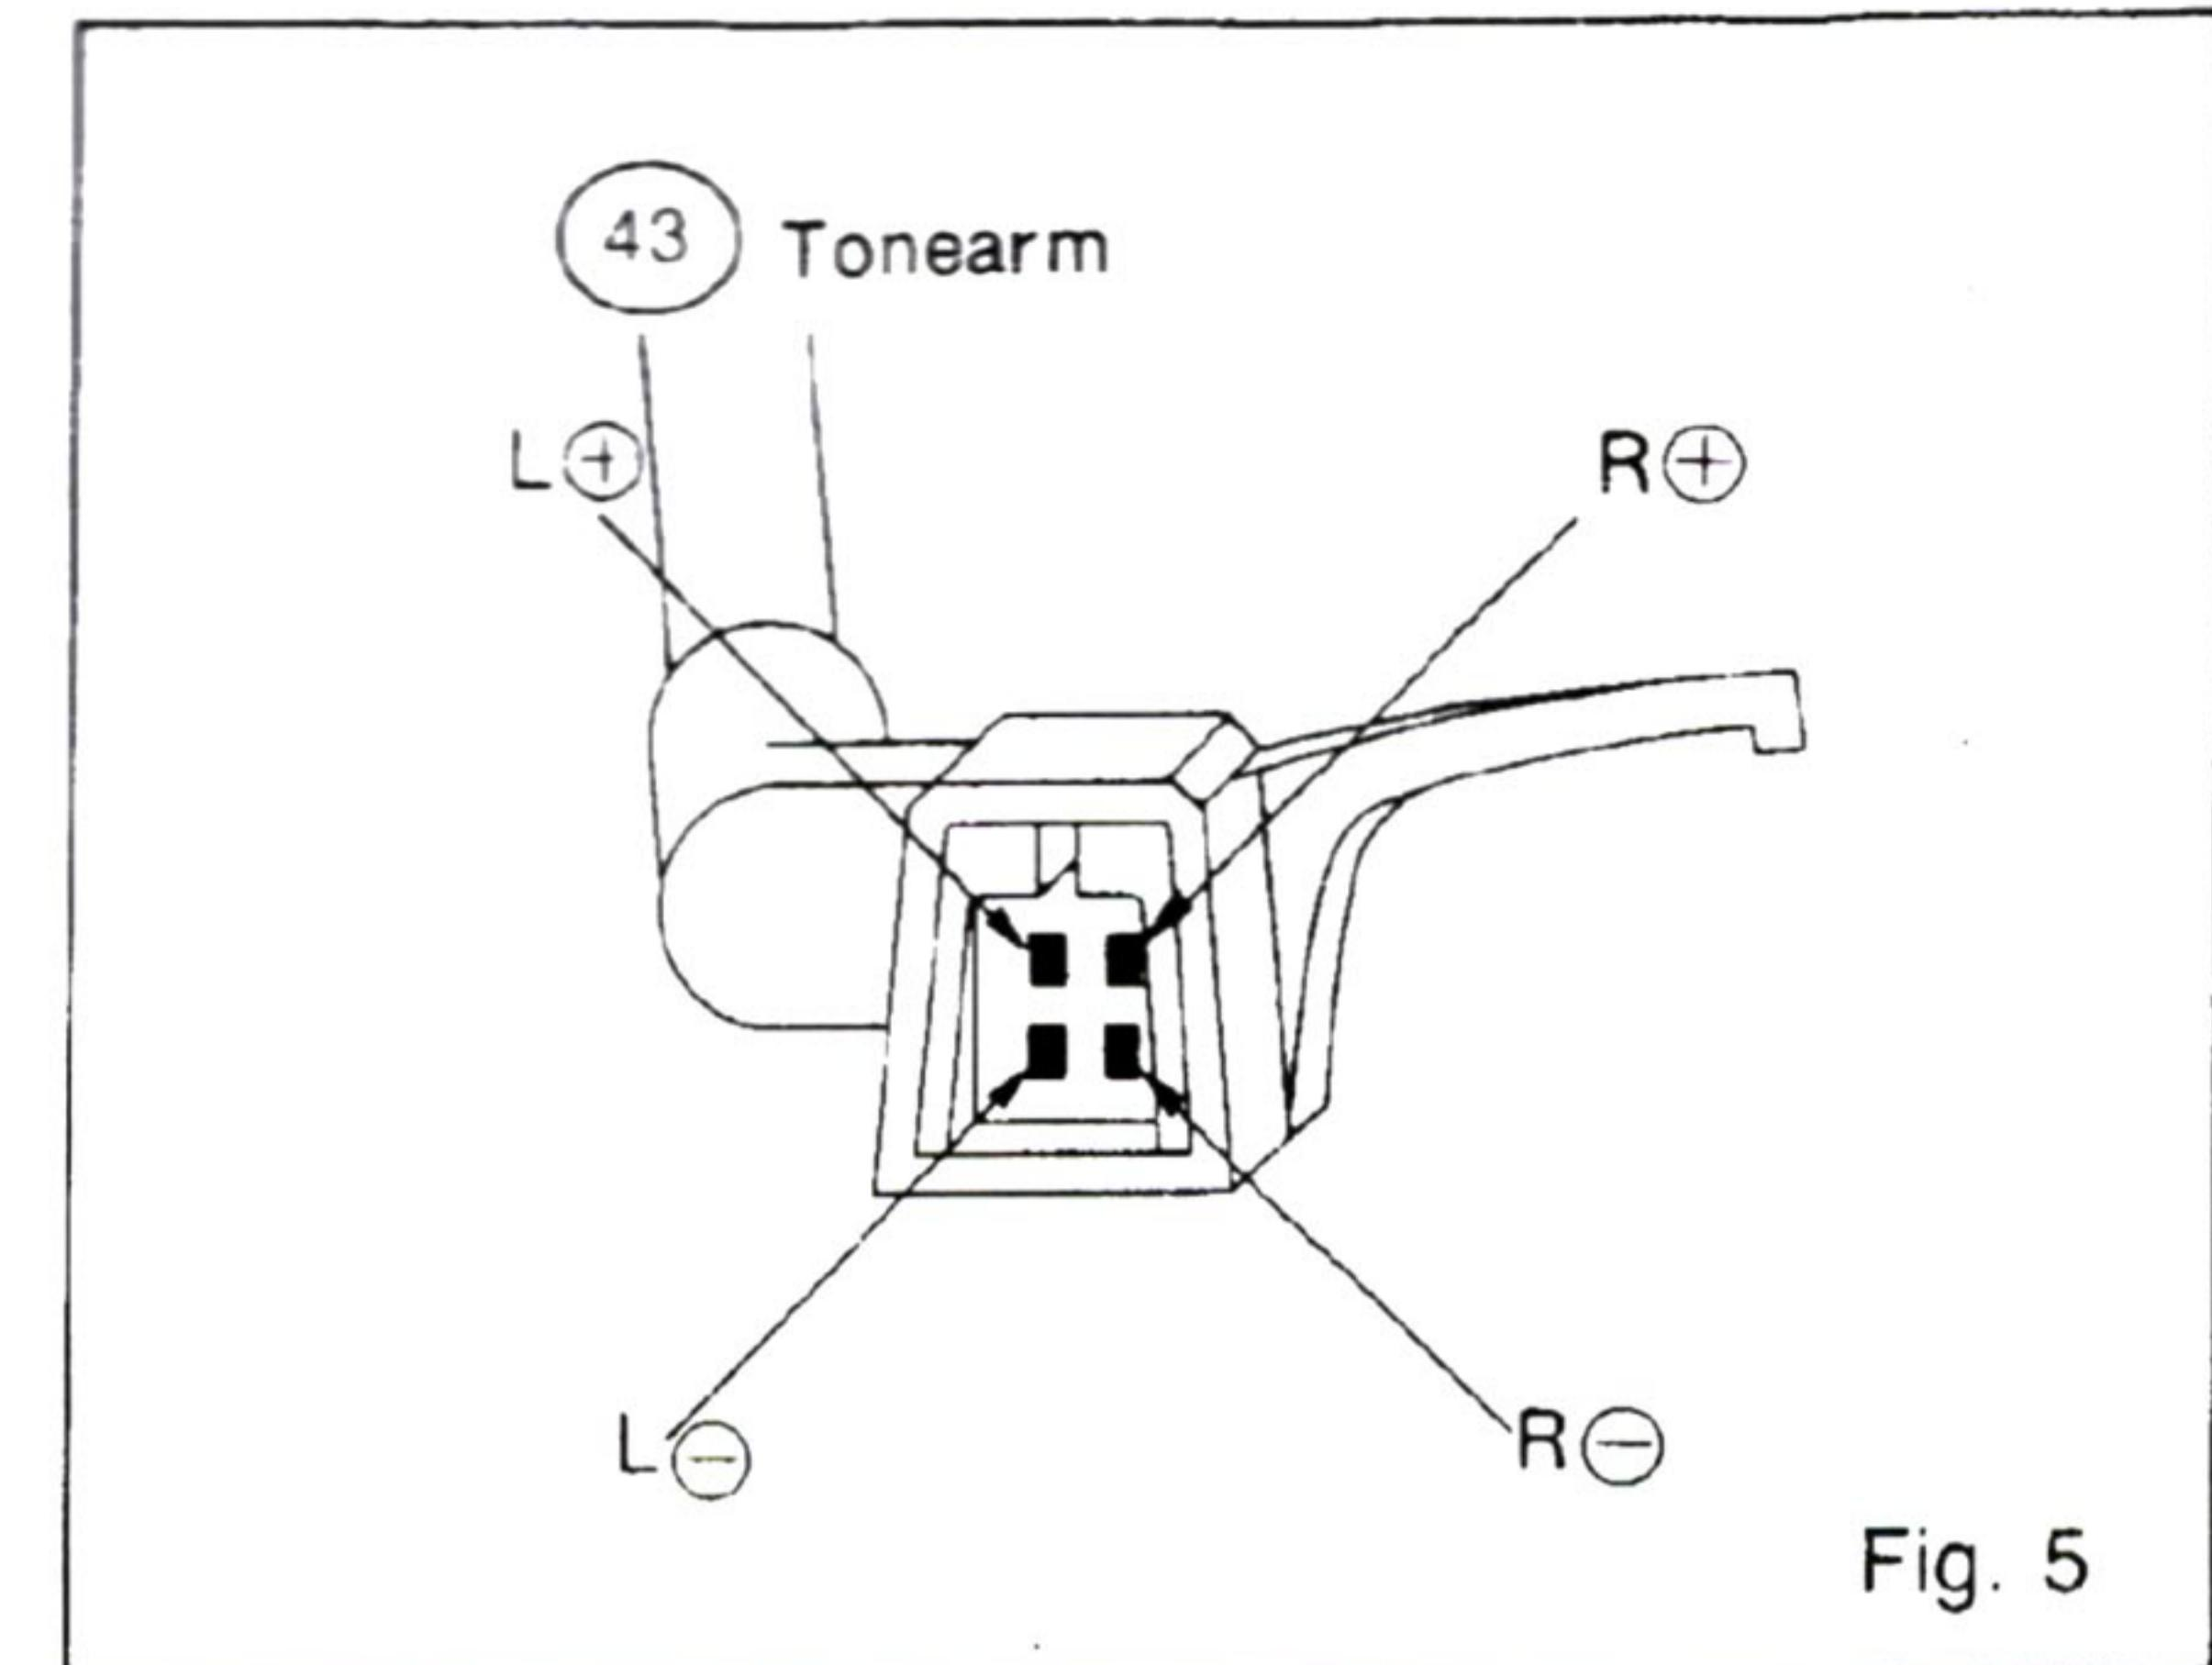

Fig. 5
- Removing Cartridge (42), touch the upper two terminals (L \ominus and R \oplus) at the end of tonearm (43) with a metallic screwdriver and listen for the speaker to produce a humming noise (Fig. 5).